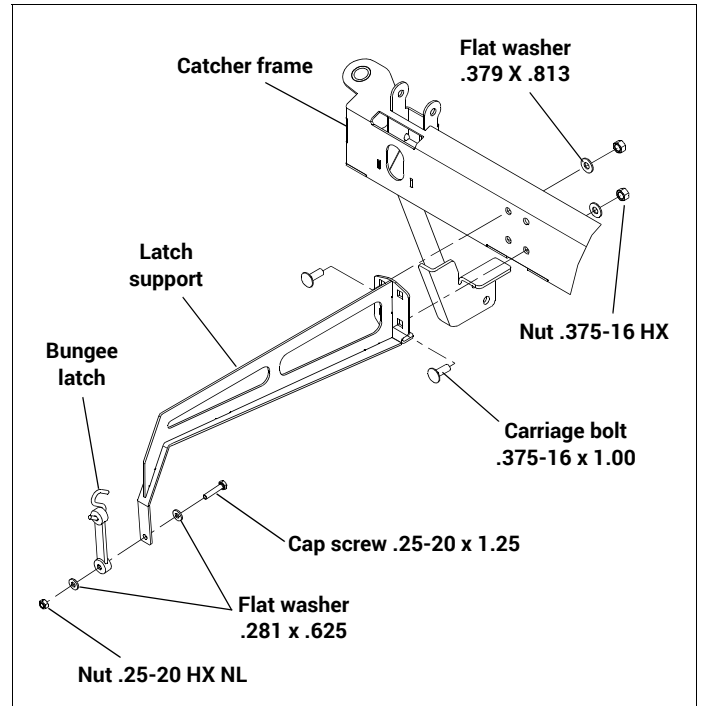

Figure 3-4
8. Attach the latch support to the catcher frame. Figure 3-4
9. Attach the bungee latch to the latch support. Figure 3-4